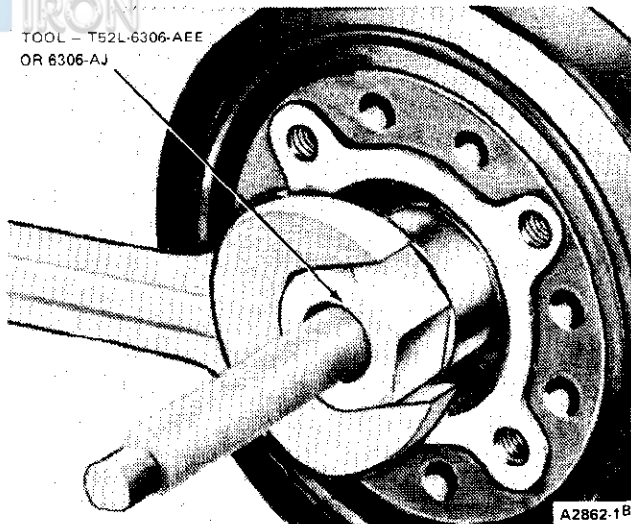

FIG. 25 Installing Crankshaft Vibration Damper
- AEE (or 6306-AJ) (Fig. 25). Install the cap screw and washer. Tighten the cap screw to specification. Install the crankshaft pulley.
4. Line up the crankshaft vibration damper keyway with the key on the crankshaft. Install the vibration damper on the crankshaft (Fig. 25). Install the cap screw and washer. Torque the screw to specification. Install the crankshaft pulley.